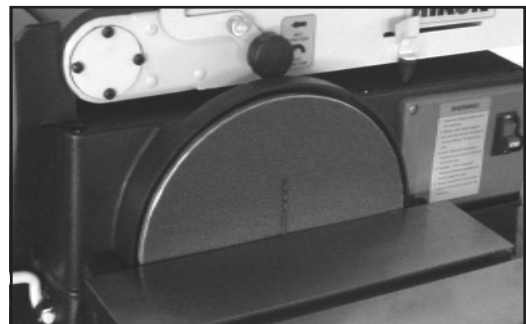

Fig. 06
8. Use a 1/16 inch drill bit as a spacer. Place the drill bit between the disc and the front edge of the table. Hold the table against the 1/16 inch drill bit and tighten the four M6 hex nuts. (See Fig. 06)